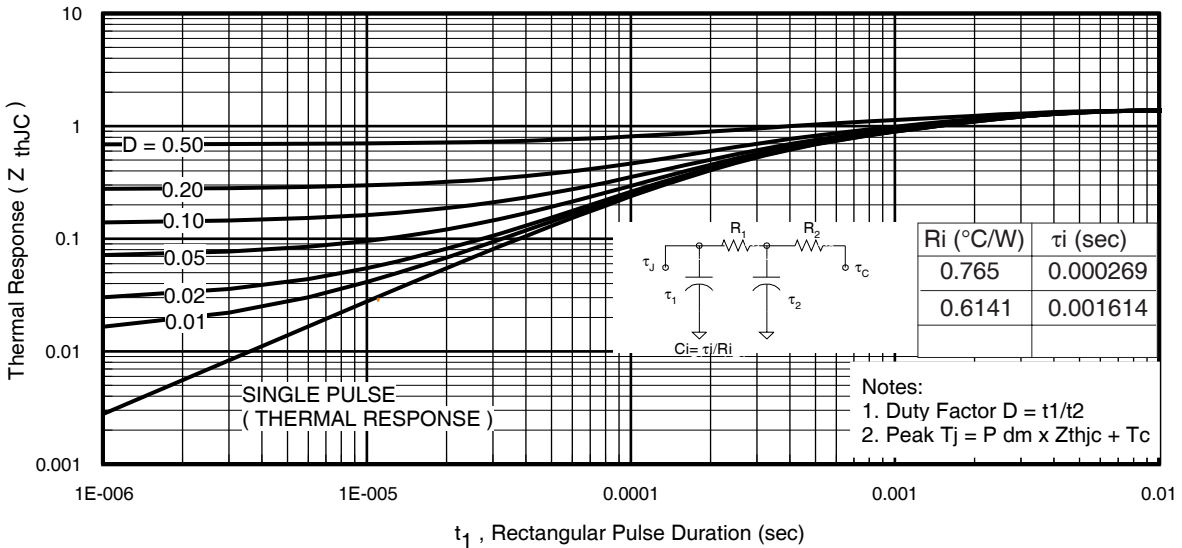
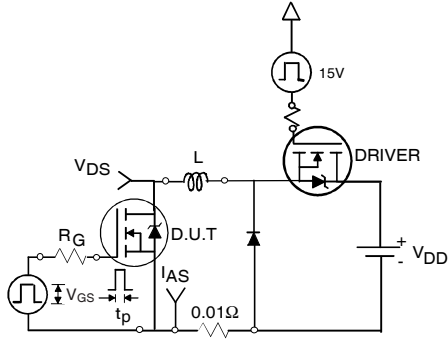

Fig 11. Maximum Effective Transient Thermal Impedance, Junction-to-Case
Fig 12a. Unclamped Inductive Test Circuit
| I_{AR} | Avalanche Current ④ | See Fig.12a, 12b, 15, 16 | A |
3. Equation below based on circuit and waveforms shown in Figures 12a, 12b.
$Z_{thJC}(D, t_{av})$ = Transient thermal resistance, see figure 11)
- ① Repetitive rating; pulse width limited by max. junction temperature. (See fig. 11).
- ② Limited by T_{Jmax} ; starting $T_J = 25^\circ\text{C}$, $L = 0.089\text{mH}$, $R_G = 25\Omega$, $I_{AS} = 36\text{A}$, $V_{GS} = 10\text{V}$. Part not recommended for use above this value.
- ③ Pulse width $\leq 1.0\text{ms}$; duty cycle $\leq 2\%$.
- ④ C_{OSS} eff. is a fixed capacitance that gives the same charging time as C_{OSS} while V_{DS} is rising from 0 to 80% V_{DSS} .
- ⑤ Limited by T_{Jmax} , see Fig.12a, 12b, 15, 16 for typical repetitive avalanche performance.
- ⑥ This value determined from sample failure population. 100% tested to this value in production.
- ⑦ When mounted on 1" square PCB (FR-4 or G-10 Material). For recommended footprint and soldering techniques refer to application note #AN-994
- ⑧ R_θ is measured at T_J approximately 90°C